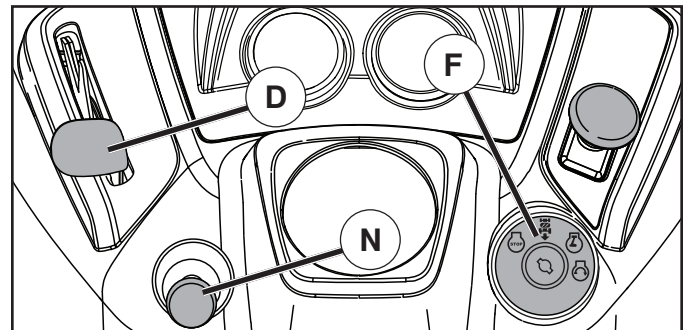

Fig. 22
- Move throttle control (D) to fast position.
- Turn ignition key (F) to "STOP" position and remove key. Always remove key when leaving tractor to prevent unauthorized use.
### TO USE THROTTLE CONTROL (D) (See Fig. 22)
### TO USE CHOKE CONTROL (N) (See Fig. 22)